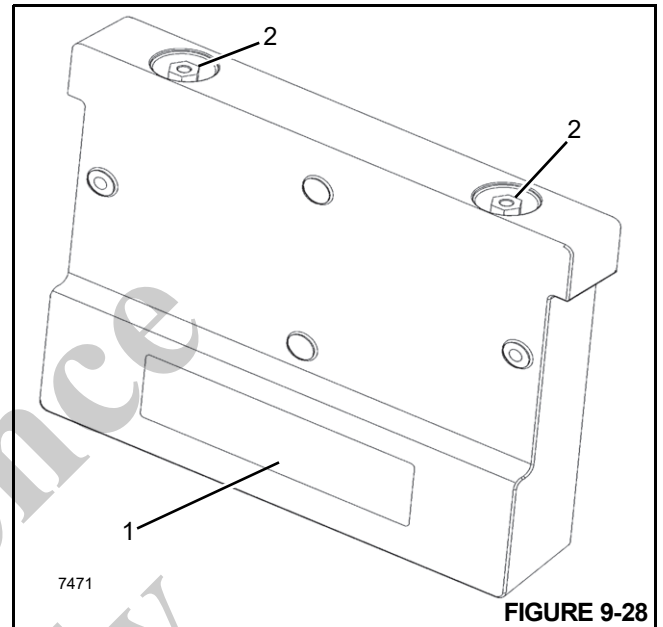

FIGURE 9-28
Each counterweight plate can be identified by the part number and weight stamped (1, Figure 9-28) into the side of the plate.
3. Install two threaded lifting capscrews into the 1.25 x 7 UNC lift inserts (2, Figure 9-28). Using a proper lifting device, attach lifting straps to the capscrews. After the straps are attached, remove slack from the straps.
3. Install two lifting capscrews into the 1.25 x 7 UNC lift inserts (2, Figure 9-28). Using a proper lifting device, attach straps to each capscrew, and lift and place the counterweight inside the crane support weldment.